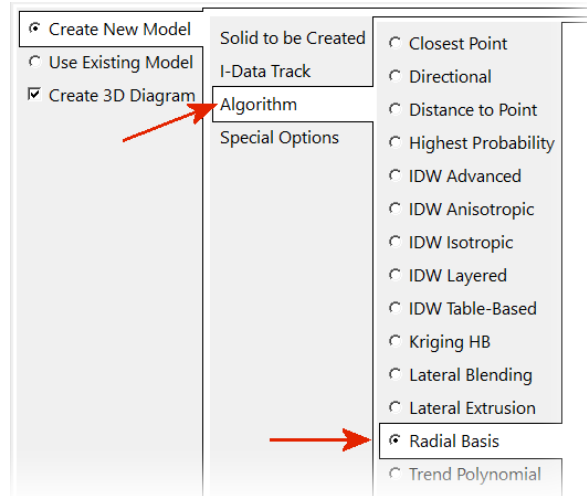

Figure 70
- Click on the *Algorithm* tab (Figure 70) and select the *Radial Basis* method. This will produce an aesthetically pleasing interpolation that is well suited for modeling plumes.